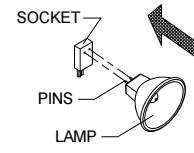

FIG.2
- MR16:** Insert the pins of the lamp base into the socket. (Fig.2)
- Insert the pins of the lamp base into the socket and rotate the lamp clockwise. (Fig.2, 2A)